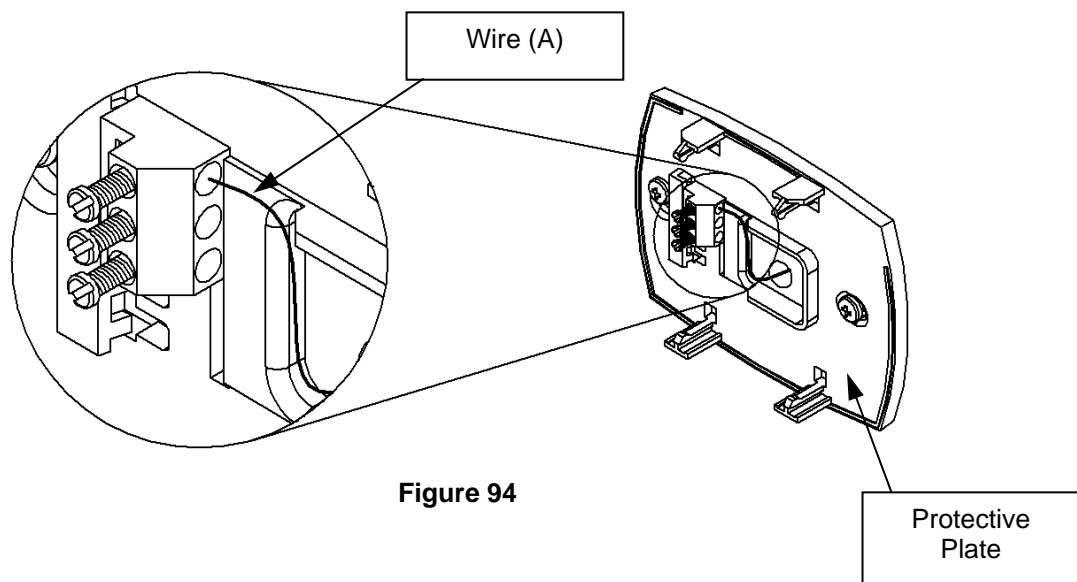

Figure 94
Step 14: Using wire (A), insert one end into the top terminal location on the Protective Plate. This is shown in Figure 94.